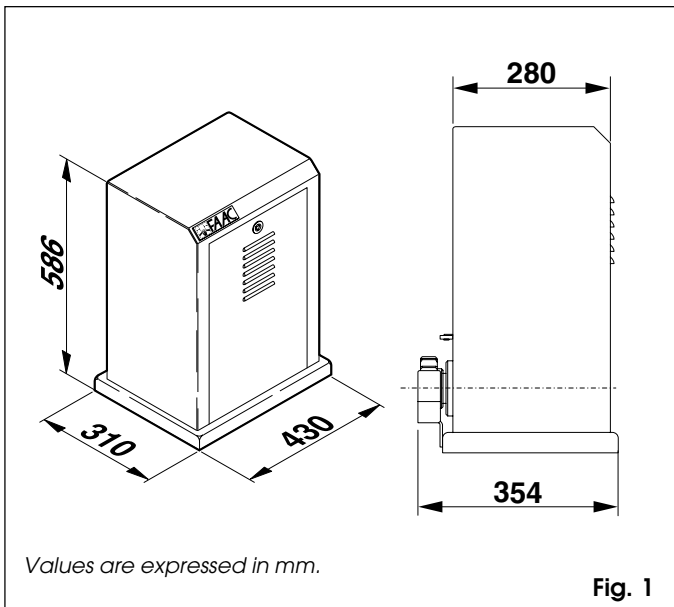

Fig. 1
Gear motor dimensions LxHxD (mm)	see Fig. 1
The operator is equipped with a safety device (fig.1 - ref.7), activated by the release device. If enabled, it prevents any manoeuvre by the operator.